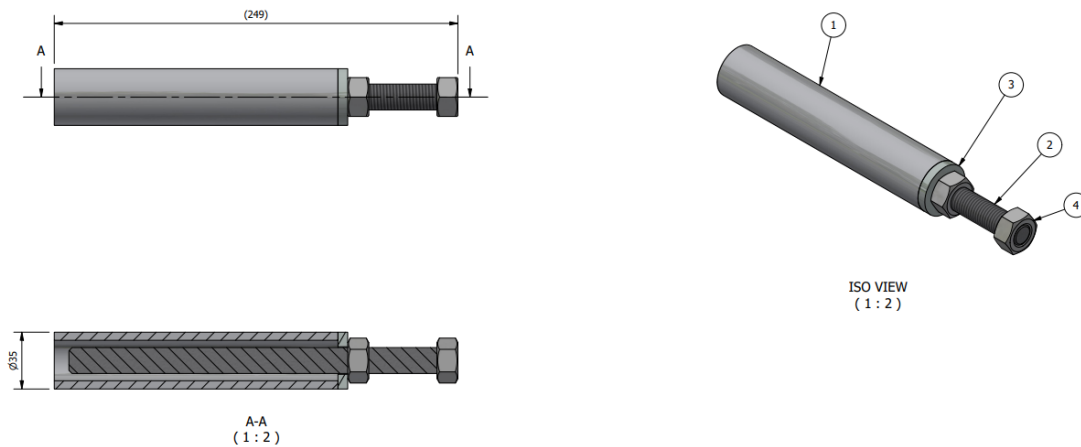

Figure 5.2: Spring compression tool
**Note!** To perform a wire replacement a special spring compression tool is required. The spring compression tool is shown below in Figure 5.2. When loosening the tool, make sure that the threaded rod does not twist, as this can cause the rod to pop out of place.